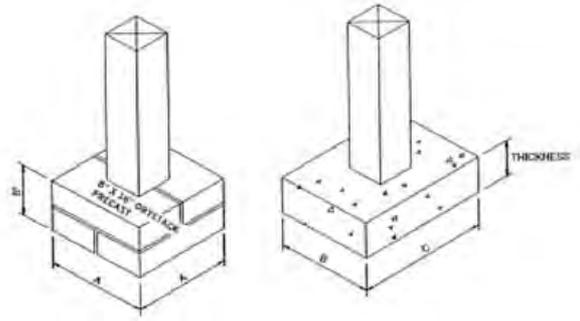

FIGURE AM102.1(1)
AM102.1 Footings. Support posts shall be supported by a minimum footing in accordance with Figure AM102.1(1) and Table AM102.1. Minimum footing depth shall be 12 inches (305 mm) below finished grade in accordance with Section R403.1.4. Tributary area is calculated as shown in Figure AM102.1(2).